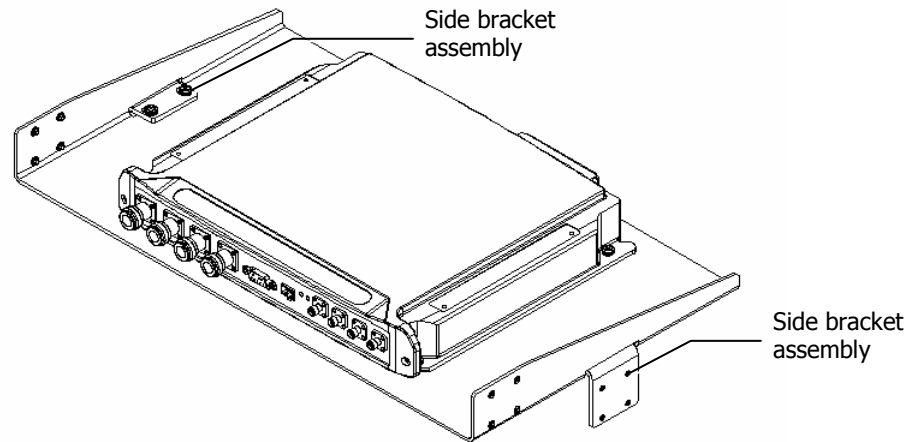

Figure 3-4. MA 850 Rack Installation
1. Assemble two side brackets to the plate sides as illustrated in Figure 3-4.
1. Assemble the side brackets as illustrated in Figure 3-4.